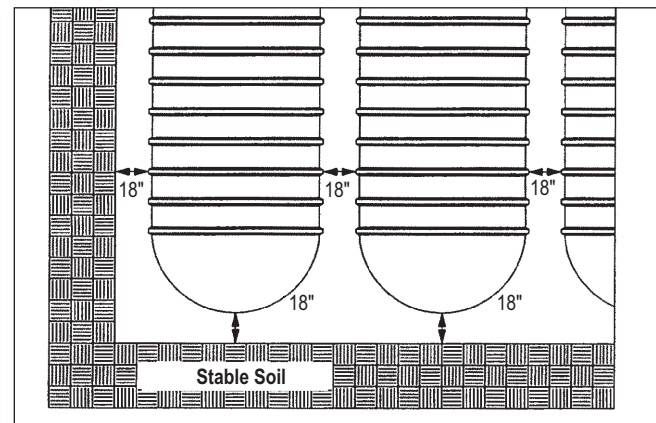

FIGURE 7-3
7.5.2.1. The minimum spacing between the sidewall or endcap of the tank and the side of the excavation must be 18 inches. See FIGURE 7-3.
7.5.2.2. If two or more tanks are installed in the same hole, allow for at least 18 inches between the tanks. See FIGURE 7-3.